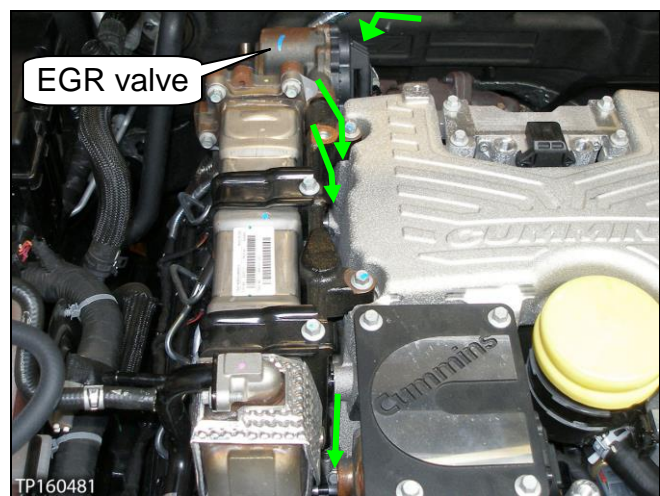

Figure 39
**NOTE:** Three of the intake manifold bolts on the “EGR valve” side cannot be seen in Figure 39.